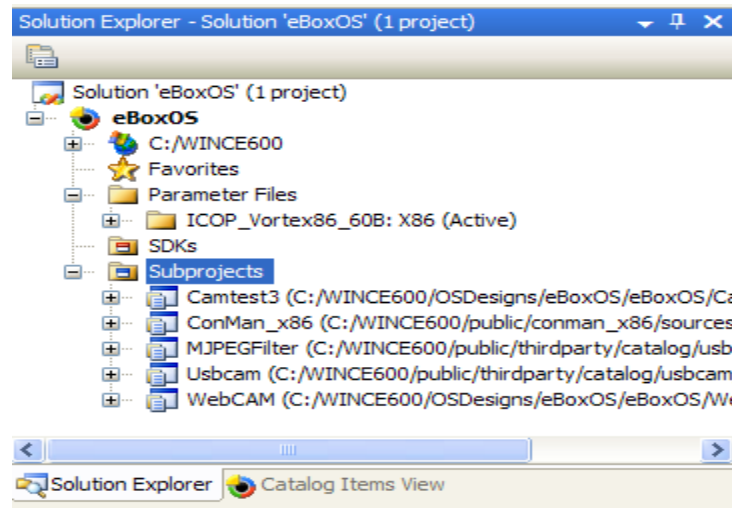

Figure 51. OS Design Subprojects
1. In the OS design project, right click on the Subprojects folder locator in the Solution Explorer tab as shown in figure 51